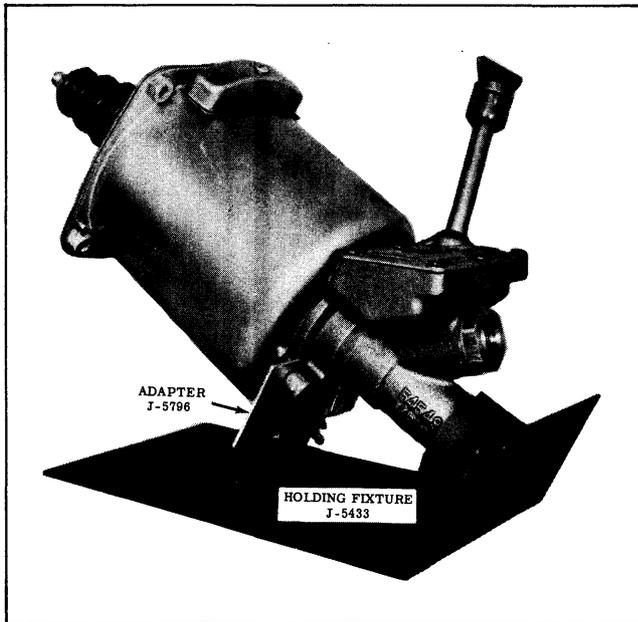

Fig. 7-13 Power Brake Holding Fixture
2. Mount unit in holding fixture J-5433 with adapter J-5796 if available. (See Fig. 7-13) If holding fixture is not available, clamp master cylinder end of unit in a vise.